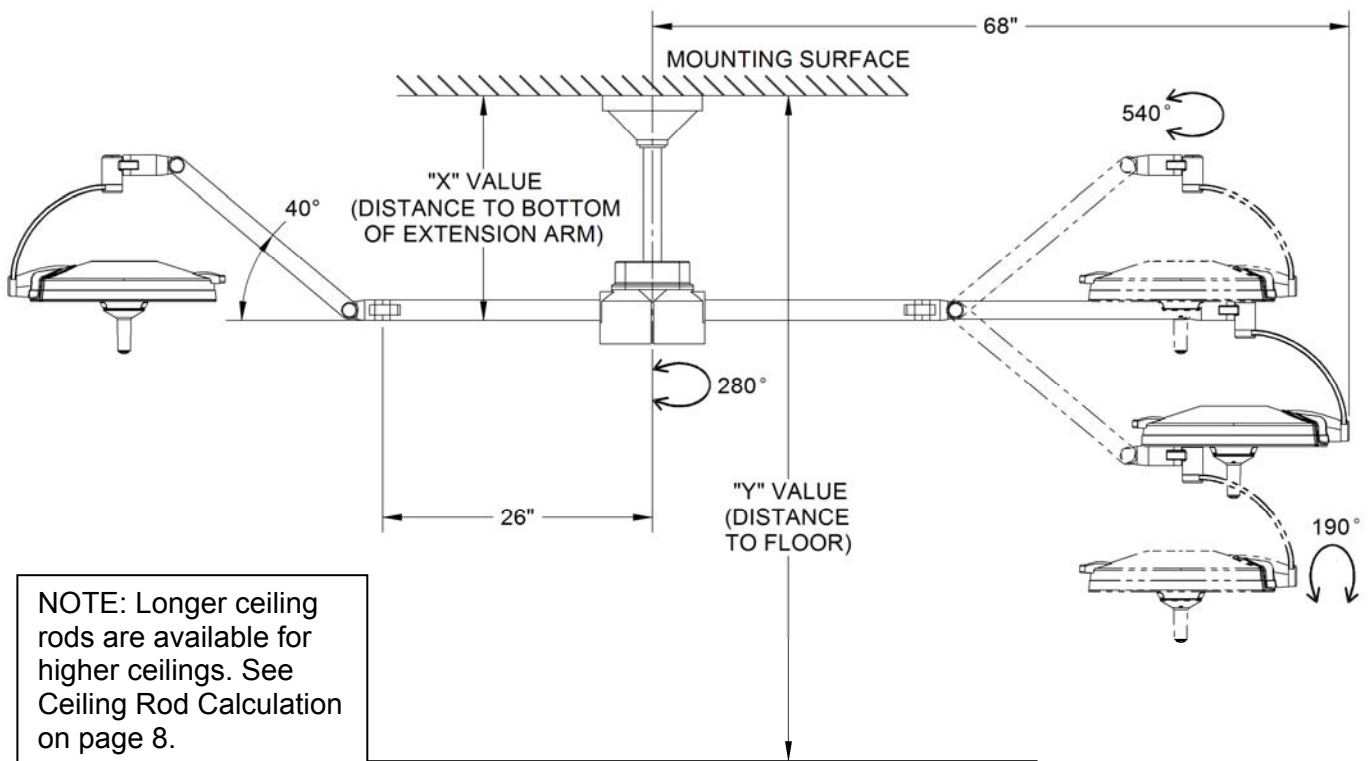

Figure 2. Double Ceiling Mount Ceiling Rod Calculation
- Check the length of the ceiling rod supplied to make sure that it is the proper length to install and operate the light without interference or over reach (See Figure 1 or Figure 2).